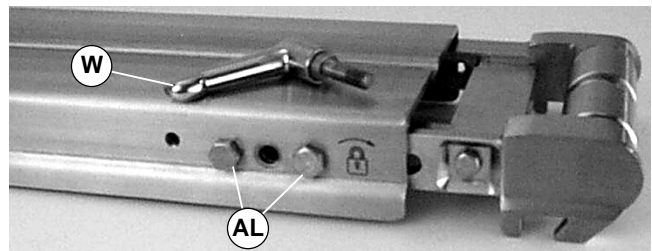

Figure 32
1. Remove handle (W of Figure 32).
2. Remove two (2) screws (AL of Figure 32).